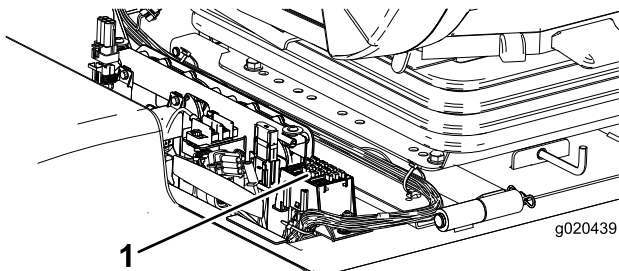

Figure 9
- Route the wire harness under the traction unit up into the power center (Figure 9).